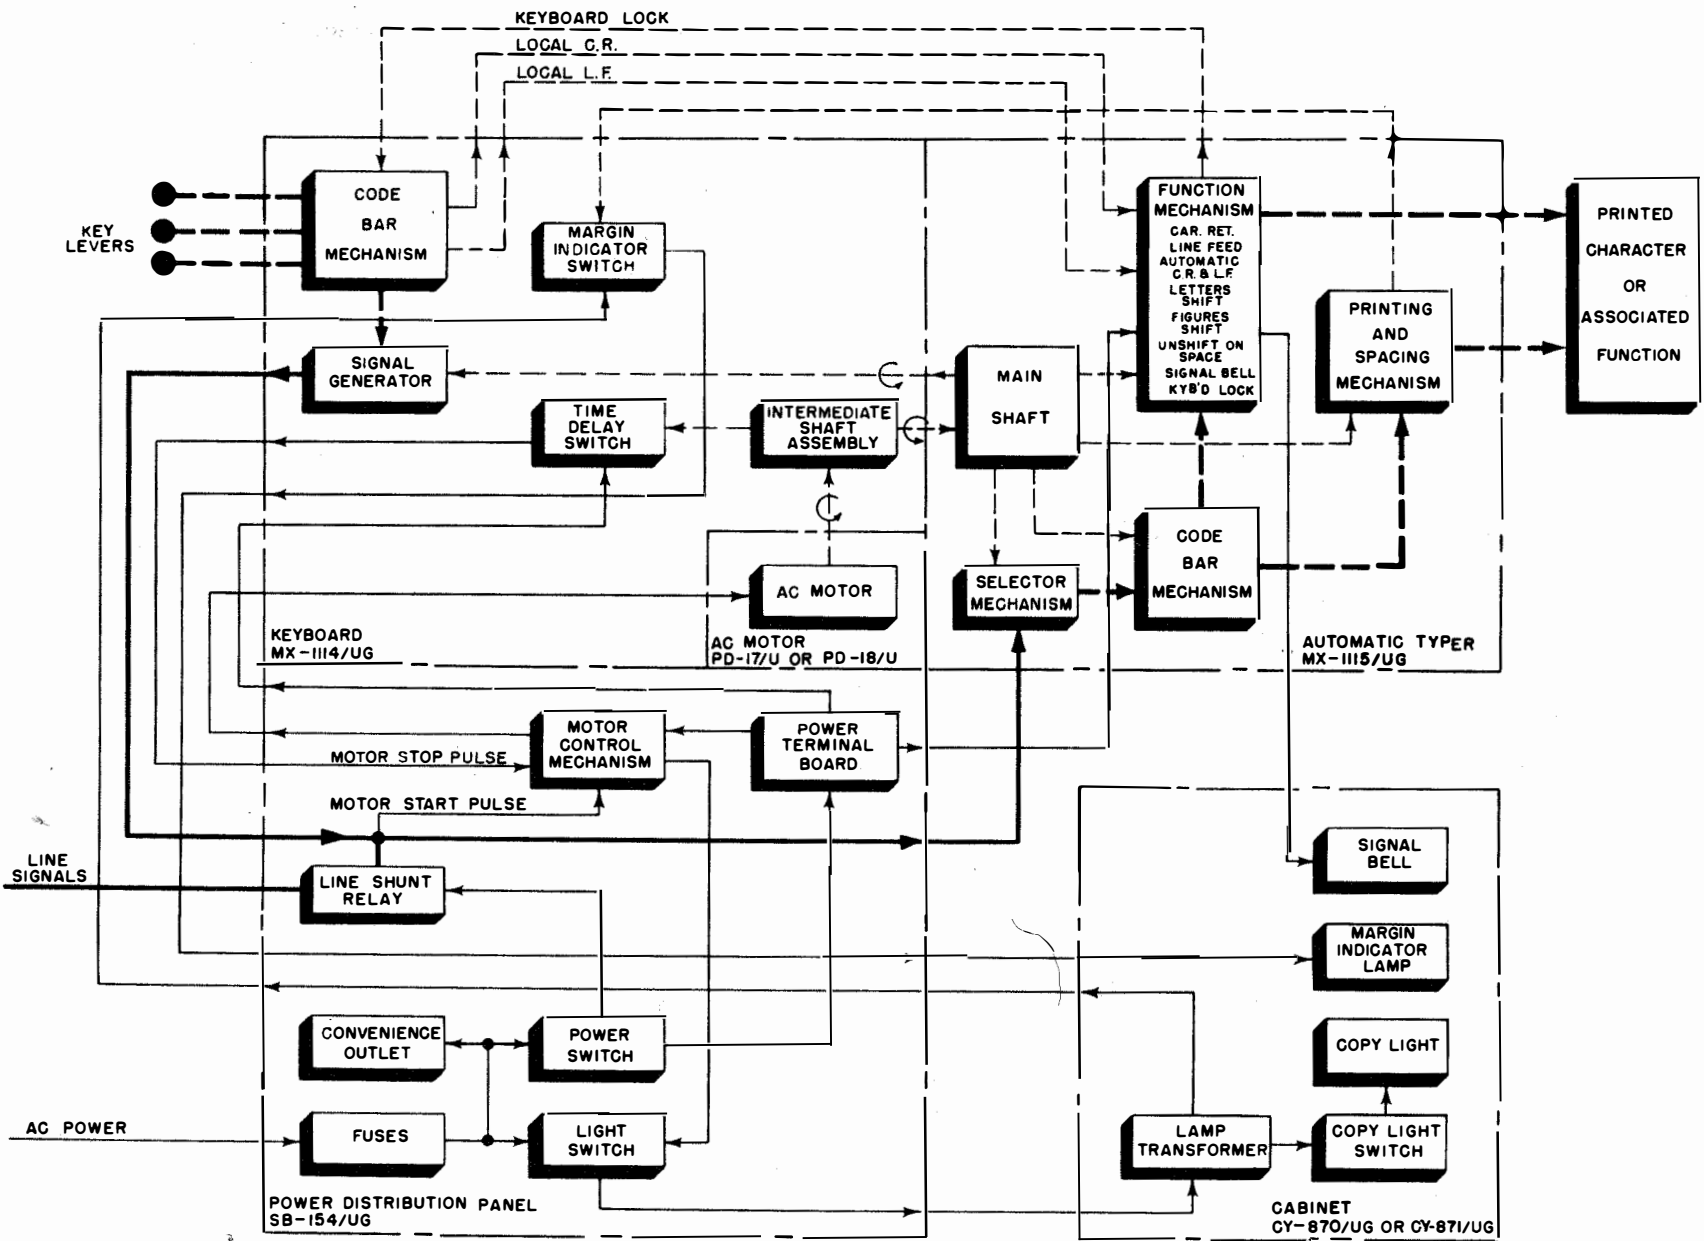

Figure 2-1. Teletypewriters, TT-47/UG, TT-48/UG, TT-69/UG & TT-70/UG, Functional Block Diagram
b. The general electrical and mechanical relationships of the units which make up the Teletypewriters are shown in figure 2-1, a functional block diagram.